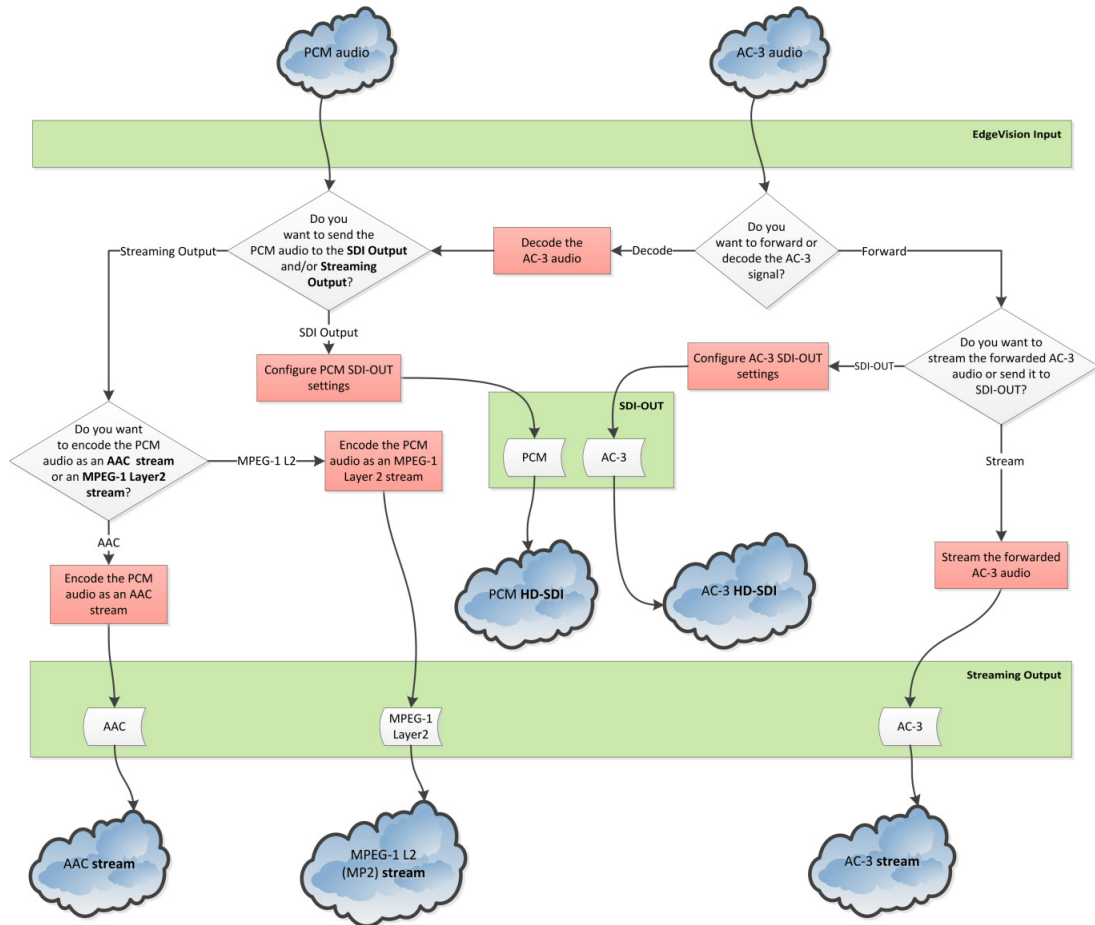

Figure 1-5 EdgeVision audio processing workflow and signal flow (see Table 1-1)
The following table is a list (**NOT** in any sequential order) of the user tasks referenced in the workflow/signal flow of Figure 1-5.
Table 1-1: EdgeVision audio processing user tasks (see Figure 1-5)
Table 1-1: EdgeVision audio processing user tasks (see Figure 1-5) (Continued)
1. This list of tasks is not necessarily sequentially ordered. Consult Figure 1-5 for the supported context.
EdgeVision can take an AC3 audio input and output either a forwarded (undecoded) AC3 or else output a decoded AC3 audio. Other output options include outputting a forwarded AC3 stream or a forwarded AC3 over HD-SDI output. Additionally, you may choose the outputted encoding format (for decoded audio) as well as being able to map the outputted channel lineup (please see the graphical representation of the audio processing options in see Figure 1-5, on page 39).
IMPORTANT: In order to output the decoded AC3 audio from the EdgeVision unit, you must also configure audio encoding. Make sure you consult see Figure 1-5, on page 39 to situate the procedure you have just completed within the larger supported workflow.